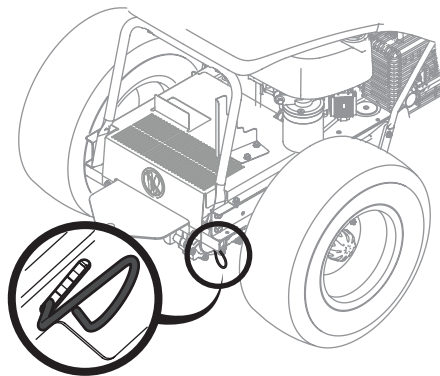

Figure 1
1. Engage the transmission bypass rod to move the riding mower manually without starting it. The transmission bypass rod is located on the inside of the right tire near the rear of the riding mower. Engage the bypass rod by pulling out and down (Figure 1).
2. Disengage the bypass rod by lifting up and allowing the rod to move back in after moving the riding mower (Figure 1).